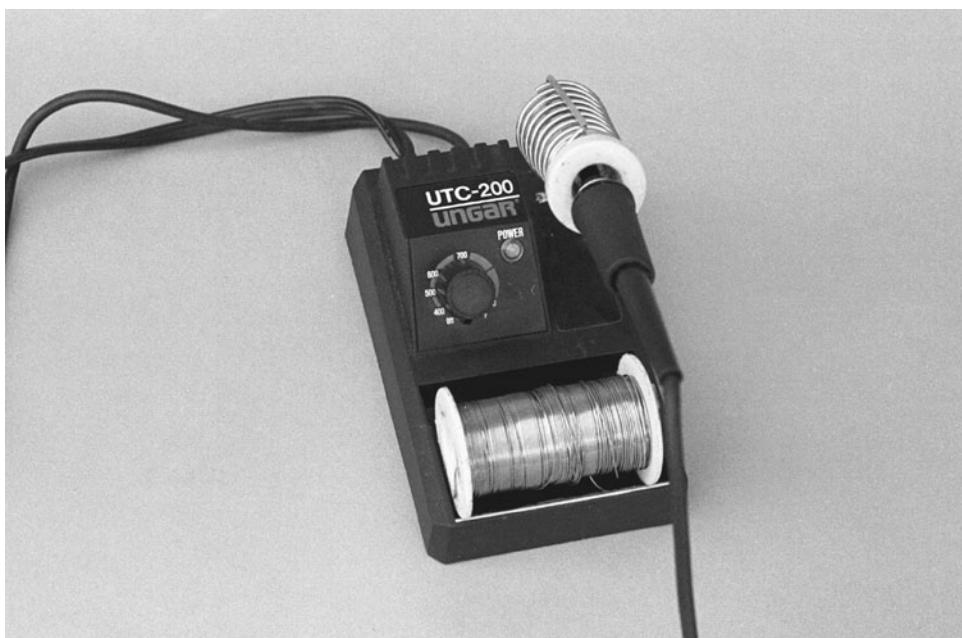

FIGURE 7-2 Use a low-wattage (25 to 30 W) soldering pencil for all electronics work.
7.1.2.1 Soldering iron and tip When you are looking for a soldering iron, choose one that is designed for electronics, like the one in Fig. 7-2. The iron should have a fairly low wattage rating (not higher than 30 W). Most soldering irons or *pencils* are designed so you can change the tips as easily as changing a lightbulb. Make sure that you have the smallest pointed tip available for your iron as it will be required for small electronics assembly. It is a good idea to buy a soldering iron that is grounded to keep from running the risk of damaging sensitive electronic components by subjecting them to electrostatic discharge.